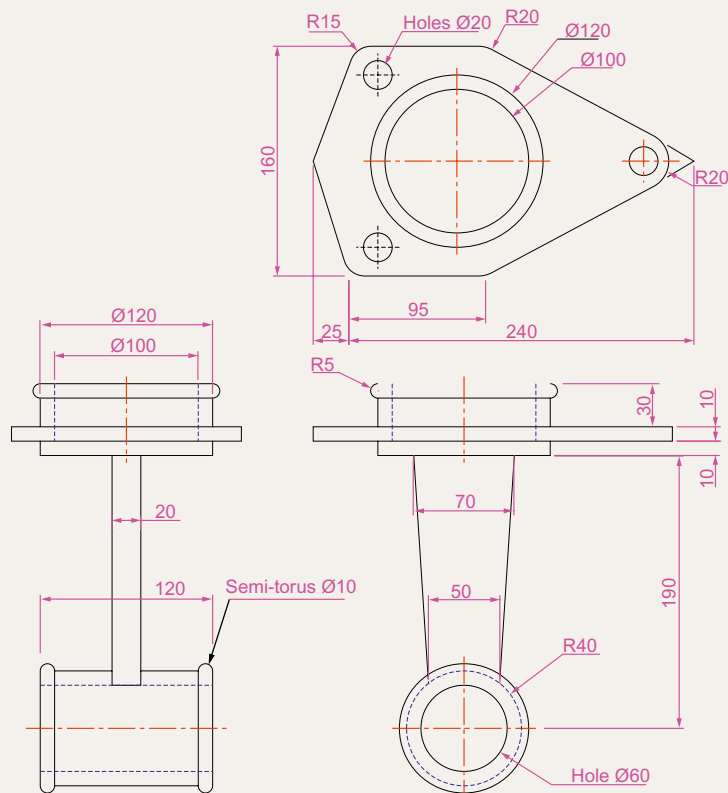

Fig. 15.56 Exercise 3
3. A three-view drawing of a hanging spindle bearing in third angle orthographic projection is shown in Fig. 15.56. Working to the dimensions in the drawing construct a 3D model drawing of the bearing. Add lighting and a material and render the model.